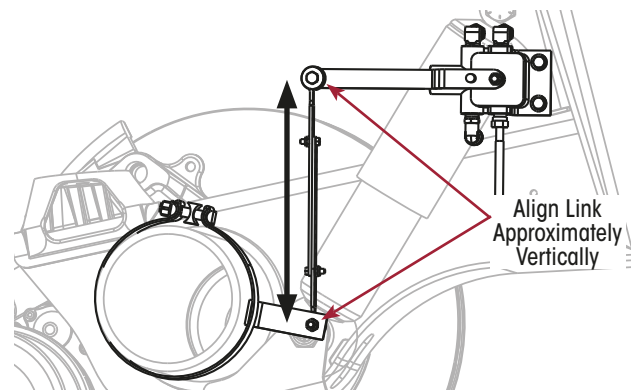

Figure 190: Check HCV Link Angle at Ride Height
16. If using band clamp, rotate the lower bracket, with lower height control valve link, around the axle until the link can be joined vertically (or at least close to vertical). Refer Figure 190.